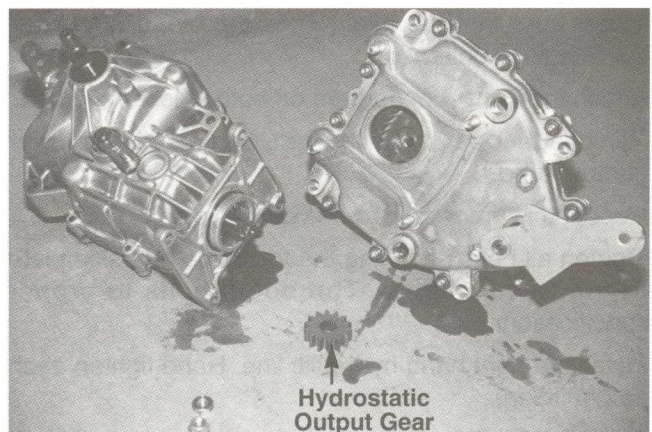

FIGURE 4.
4. While separating the pump from the housing notice that the input pinion gear slides easily on and off the shaft. Make sure that the gear does not fall into the transmission housing during removal. Also notice that the four studs that stick out of the housing are pressed into the housing. When you remove the pump, do not jar these studs or allow them to fall into the housing. See figure 4.